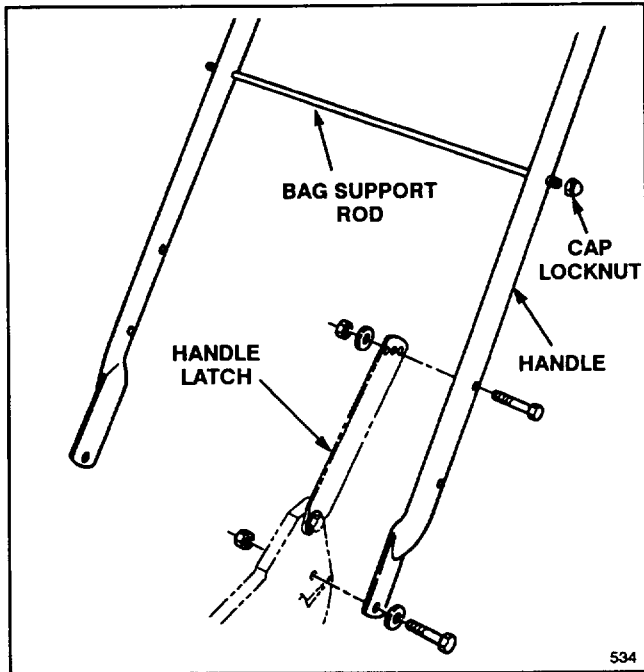

Figure 1
## INSTALL HANDLE (Fig. 1)
2. Secure handle latches to handle with (2) 5/16-18 x 1-1/2" lg. capscrews, washers and nylon insert locknuts. Position locknuts and washers on inside of handle.
3. Slide bag support rod thru top mounting holes in handle and secure each end with a cap locknut (Fig. 1).